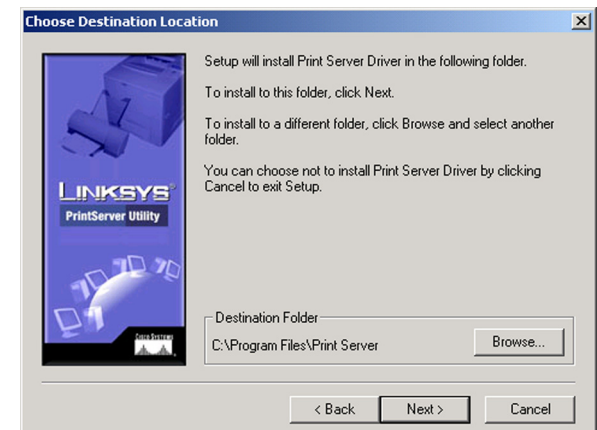

Figure 5-3: Choose Destination Location
4. The next screen to appear is Choose Destination Location, as shown in Figure 5-3. You will be requested to choose the location of where the driver's folder will be installed. If you want the folder to be installed in a different location, click the **Browse** button and select the location. To install the driver in the default location, click **Next** to continue.